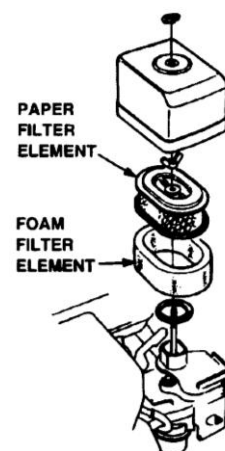

Figure 1 Air Filter
- To clean or replace air filter loosen the wing nut on the air filter housing (Figure 1), remove the cover and take out air filter cartridge. If only cleaning of the air filter is desired blow through the air filter cartridge from the inside, moving a jet of dry compressed air up and down until all dust is removed.